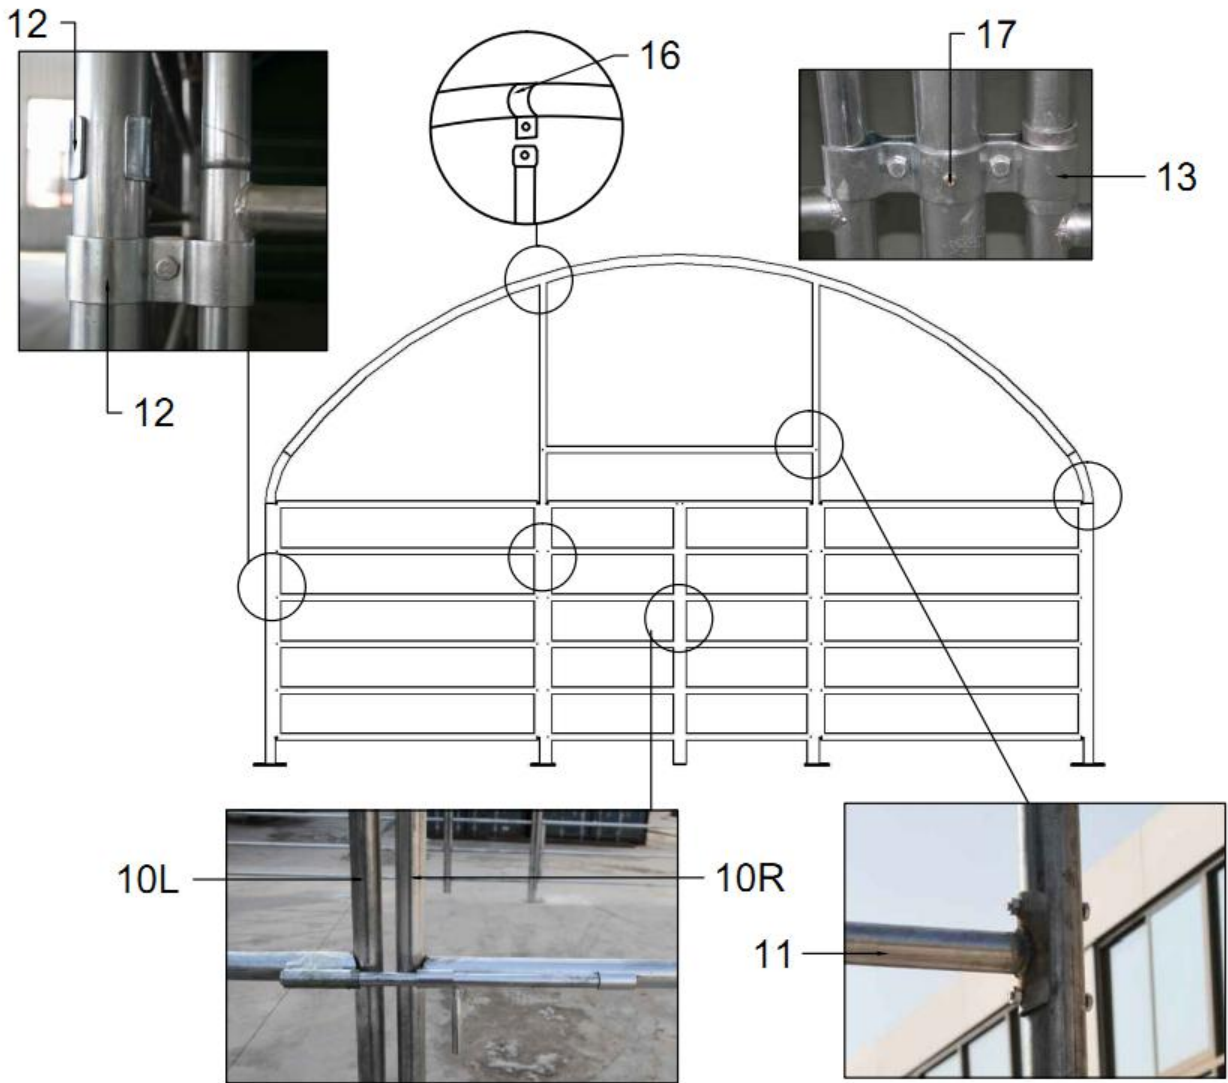
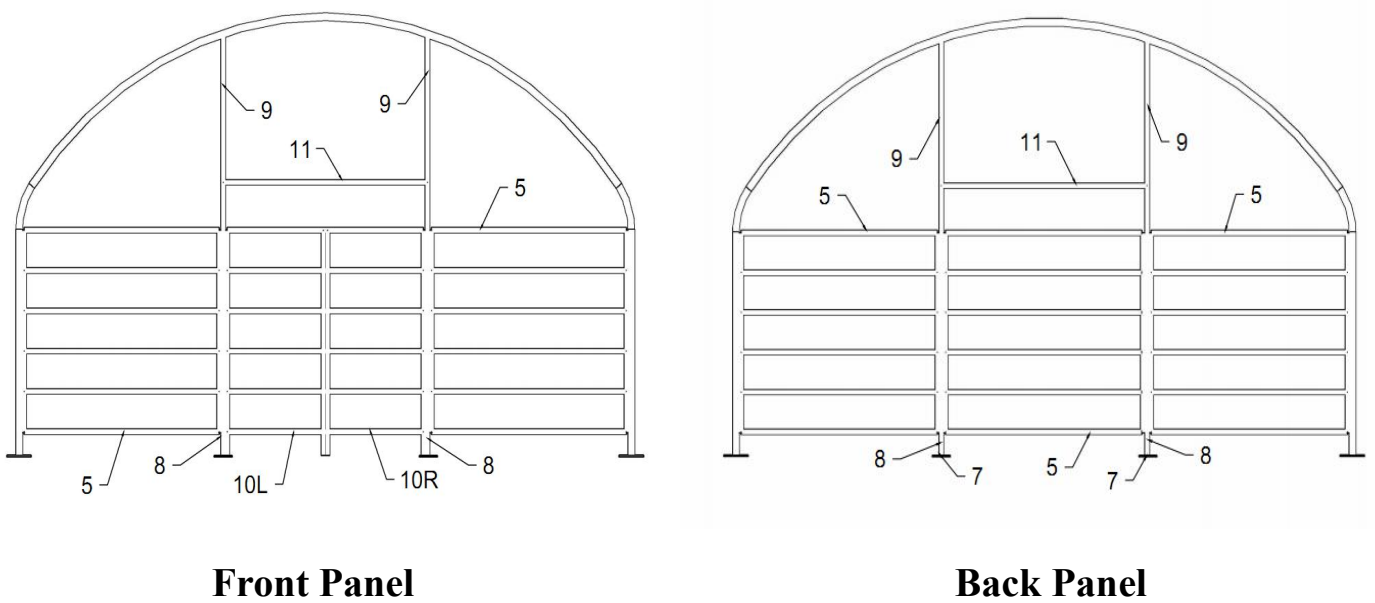

Figure 5
Figure 6
6. Install the front and back panel according to **Figure 5** and **Figure 6**.